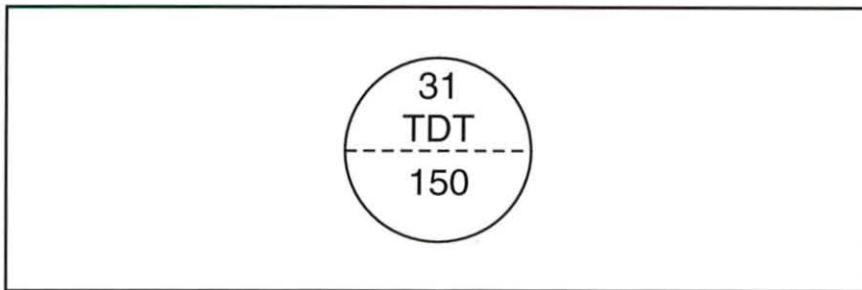

Figure 83. Instrument Tag
10. Perform the following substeps to interpret the information on the instrument tag in figure 83.
- A. Determine the type of device indicated by the tag in figure 83.
- B. Determine where the device indicated by the tag in figure 83 is located.
- D. Determine what the device indicated by the tag in figure 83 is measuring.
- E. Determine the loop in which the device is located, according to the tag in figure 83.
- F. Determine the area in which the device is located, according to the tag in figure 83.
- G. Determine the second and third modifiers of the device tag in figure 83.